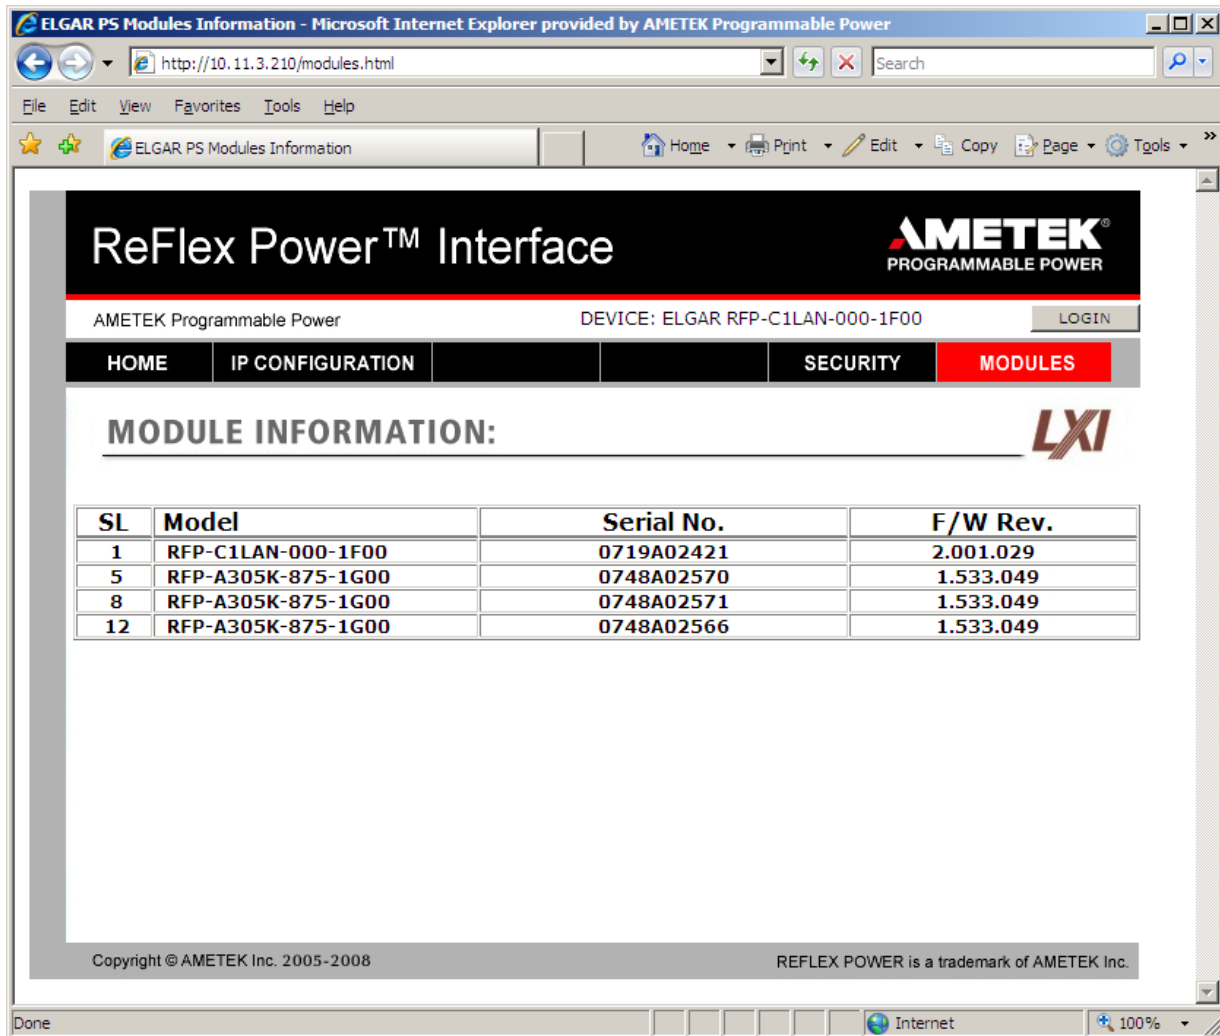

Figure 2-12. MODULES Page Showing Installed Power Modules
Click the **MODULES** tab to reveal the “address” or Slot Location (SL), the model number, the serial number and the firmware revision of the modules that are installed in the system. (Figure 2-12 shows a system with the ReFlex Power™ Controller module in Mainframe slot 1, and three AC power modules, in slots 5, 8, and 12).